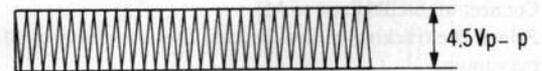

Fig. 39
4. Adjust R8283 so that the output of TP810 becomes 4.5Vp-p as shown in Fig. 39.